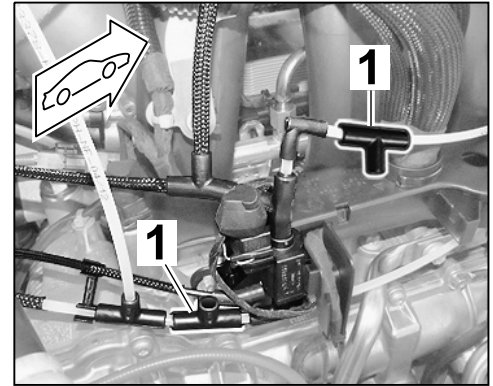

Figure 21
- 3.2.4 Insert Tekalan lines at least 10 mm into the T-pieces ⇒ *Figure 21 -1-*.